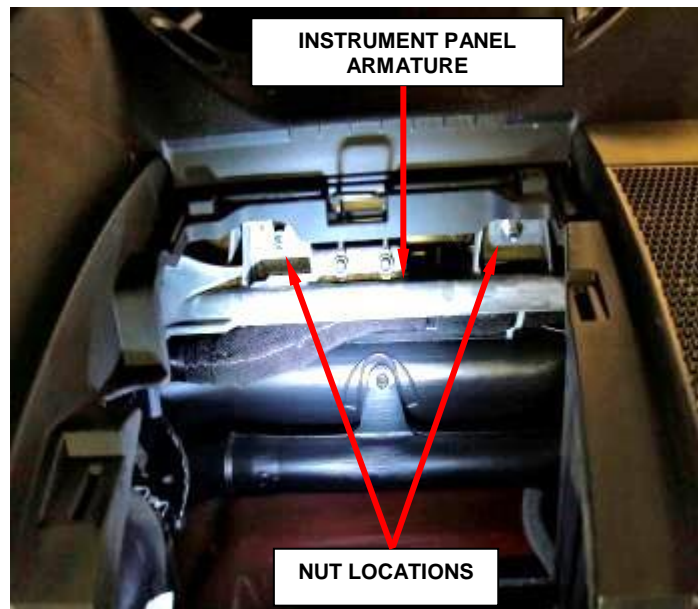

Figure 86 – PAB Lower Nuts
27. Reach up into the instrument panel glove box opening to access and remove and save the two nuts that secure the PAB lower studs to the instrument panel armature on each side of the glove box latch striker (Figure 86).